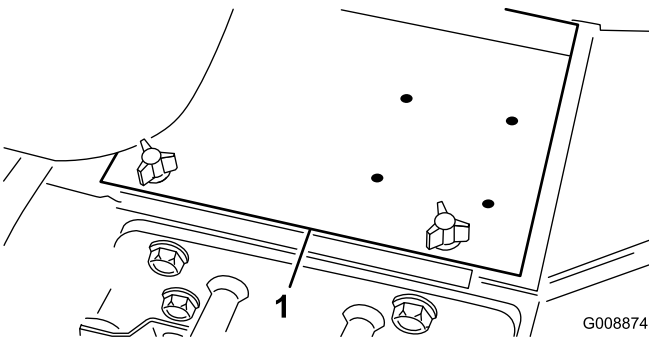

Figure 41
2. Loosen the knobs and remove the battery cover (Figure 41).